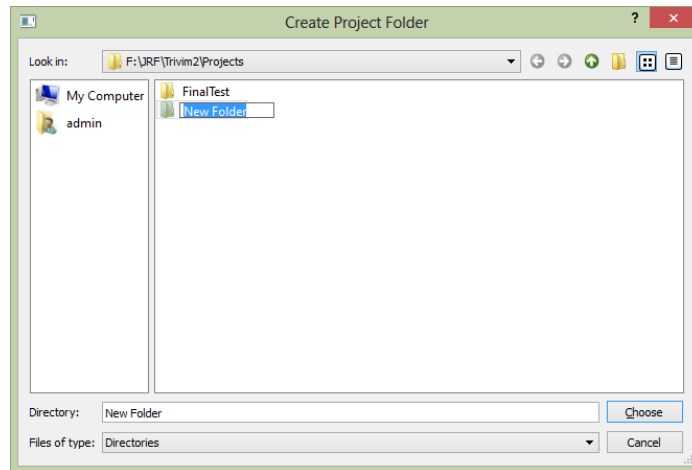

Fig2: Creating a new project
- Click on *New Project* in main menu to create a new project (Fig 2).